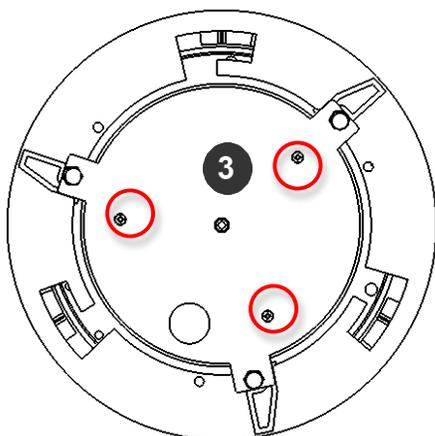

Figure 6: Attach Top Plate to in-ceiling mount with 3 set screws
- Attach Top Plate to in-ceiling mount with other 3 set screws as shown in Figure 6.